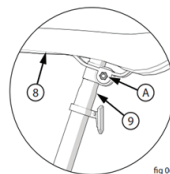

fig 06
If the seat moves in the Seat Clamp (A) (fig 06), loosen the Seat Clamp.
- If the Seat Post (9) moves in the Seat Tube (B): Move the Quick Release Lever to the “open” position, put the seat in the correct position and tighten the Quick Release Lever tighter than before.